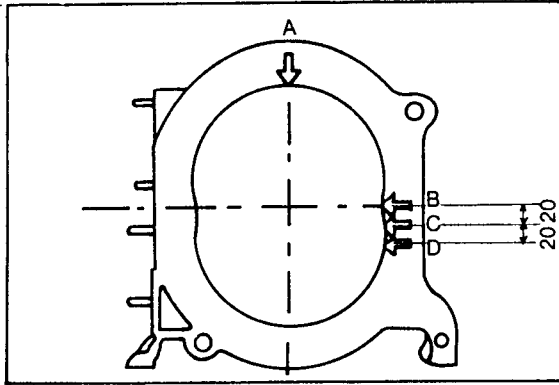

Figure 10
- (1) Clean carbon or any other deposits with MEK or paint thinner.
- (2) Remove all scale and rust from the coolant passages and water jackets.
- b) Measure the width, or thickness, of the housing at points A, B, C and D as shown in Figure 10. Points C and D are each 20 mm steps, individually beginning at point B. Compare the dimension at point A with the smallest of the other three, whichever it is. If the difference is more than 0.06 mm, the housing must be replaced.